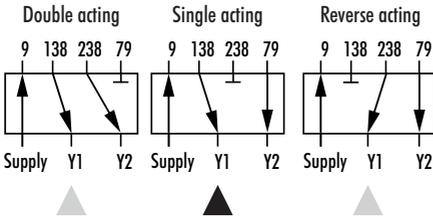

Fig. 5-13: Label on the adapter bracket
2. Unfasten the turnboard (7) from the adapter bracket (6).
3. Place the adapter bracket (6) on the positioner and mount using the screws (6.1). Make sure that the O-rings are correctly seated.
4. Place the turnboard (7) on the adapter bracket (6). Make sure that the O-rings are correctly seated.
5. Select the required switching function from Fig. 5-13 by turning the turnboard: an arrow on the turnboard points to the
corresponding switching function (see Fig. 5-13).
5. Select the required switching function from Fig. 5-13 by turning the turnboard: an arrow on the turnboard points to the corresponding switching function (see Fig. 5-18).
6. Take follower pin on the lever (M) out of its pin position and place in position 90°.